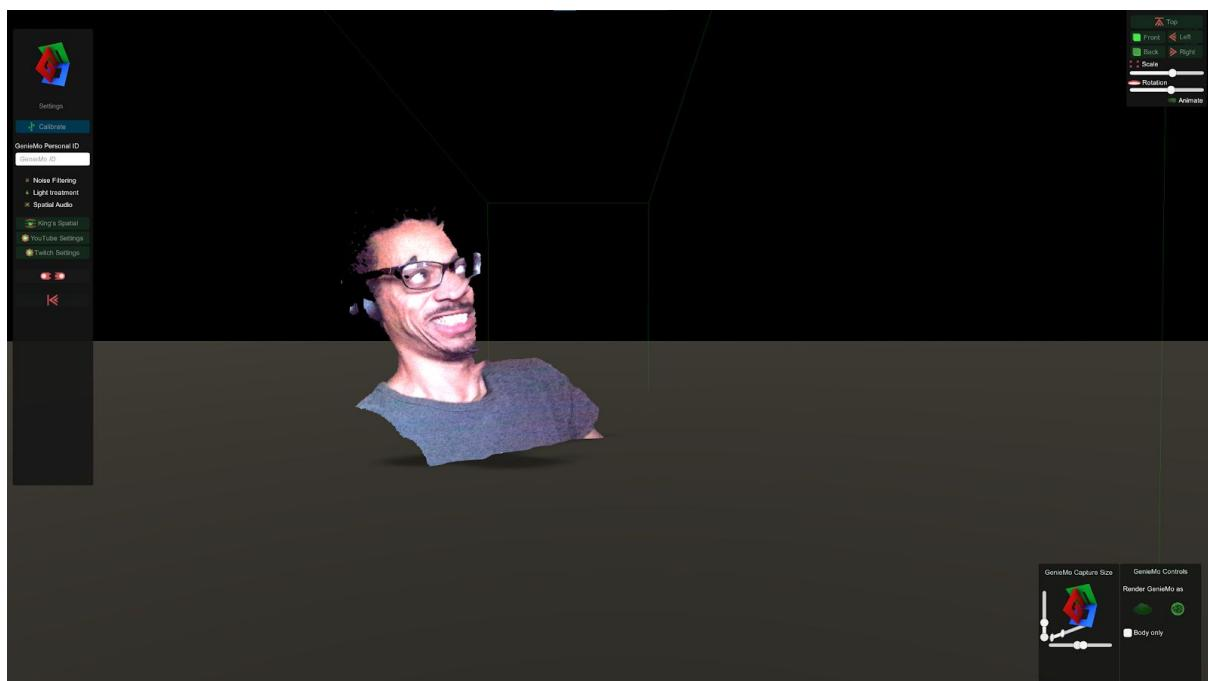

Figure 3: Single-click install - instant results.
- Real-time high-resolution surface and point-cloud modelling of objects and environment (see fig 3).
- Able to work sub-par lighting conditions to high efficiency (fig.3 shot with no light source other than the reflection from a monitor).
- Minimal edge artifacts even in low light environments (fig.3).
HP Z27n G2 27" HD monitors) with a smarter, cleaner UI clearly on display. And one cannot escape the incredible levels of detail captured in a live stream even in sub-optimal lighting conditions (fig.3).